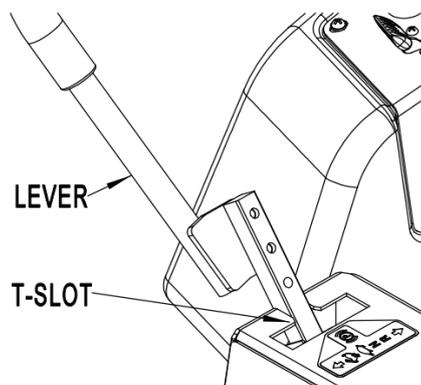

Figure 7
- When the levers are centered in the T-slot, the drive system is in the neutral position. With levers moved out in the T-slot, the drive system is in the parking brake position. See Figure 7.